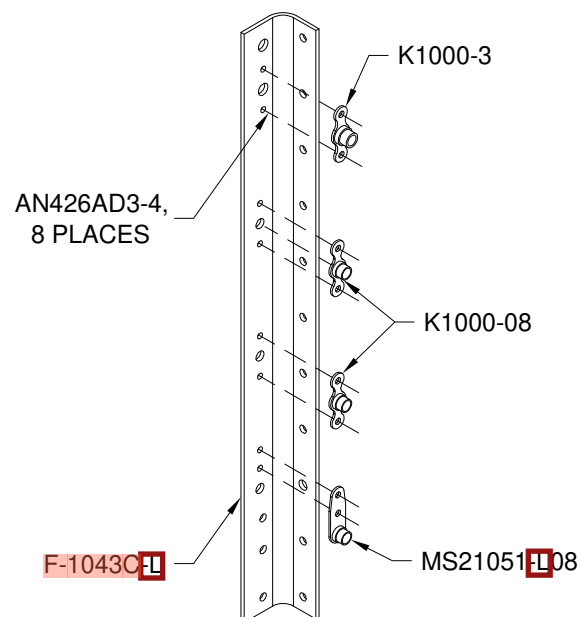

FIGURE 3: ATTACH ANGLE NUTPLATE INSTALLATION
Step 3: Final-Drill #40 the remaining nutplate attach holes in the **F-1043C-L** & **R** Attach Angles. Final-Drill #19 the K1000-08 and MS21051-L08 nutplate screw holes in the attach angles. Final-Drill #12 the K1000-3 nutplate bolt hole in the attach angles. See Figure 3.
Machine countersink the nutplate attach holes in the attach angles for the head of an AN426AD3 rivet. See Figure 3.